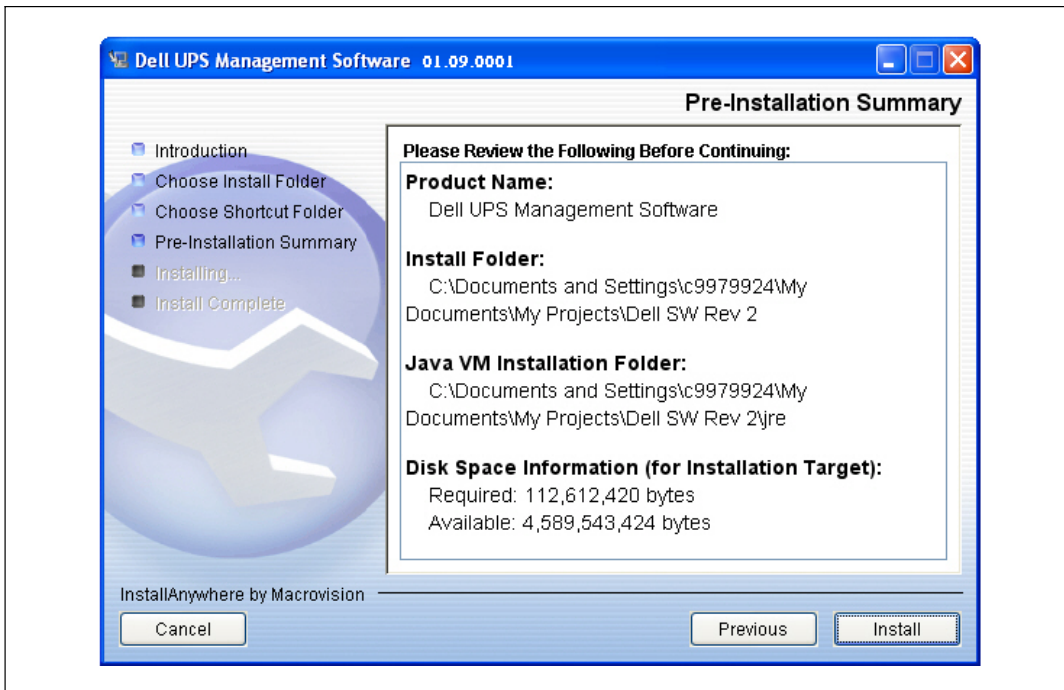

Figure 15. Pre-Installation Summary Window
- Review the selected installation options. If the options are correct, click **Install** to begin the installation (see Figure 15).